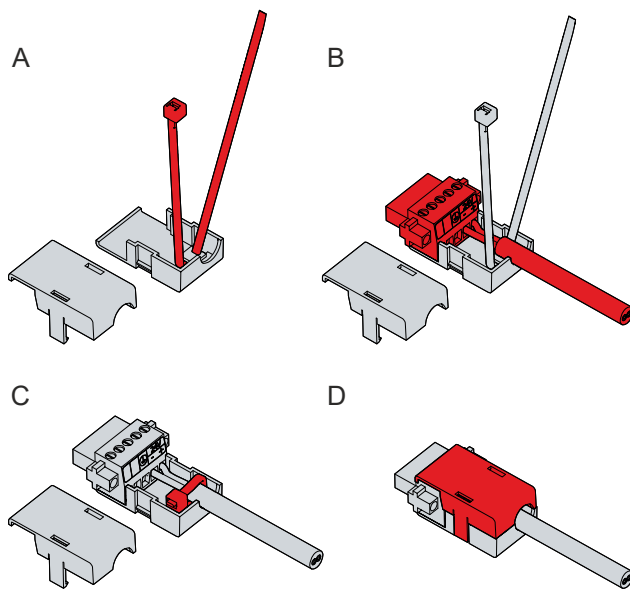

Fig. 14: CP6606_Asembly of strain relief housing
1. Use your fingers to bend the latching lugs on the lower part slightly outward (see Fig. 14).